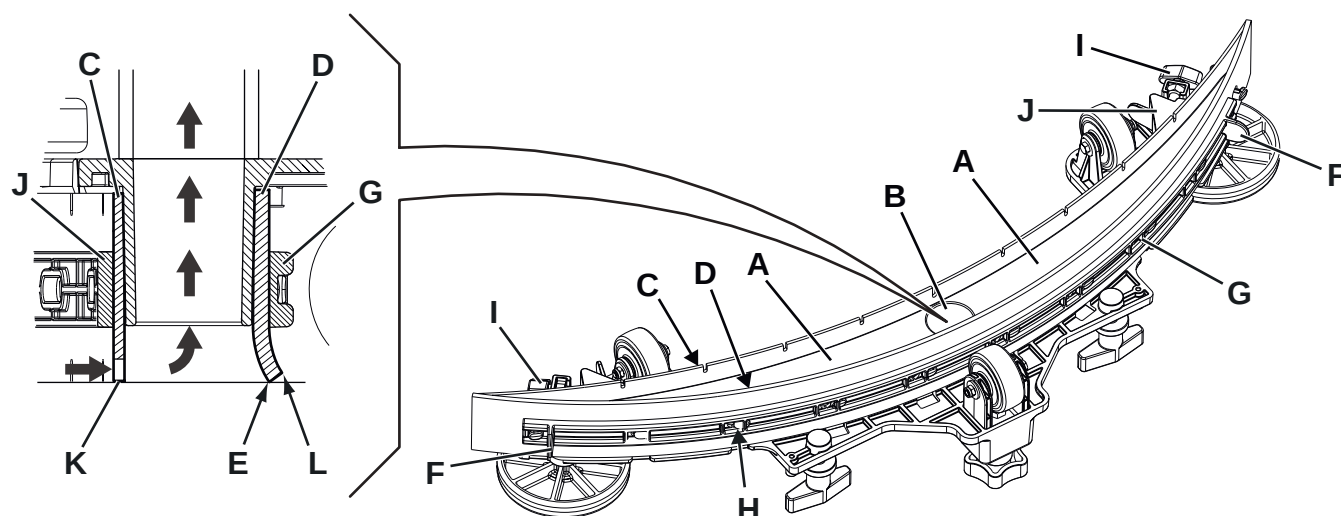

Figure 11
2. Ensure that the machine is off and the operator key (41) has been removed.
3. Loosen the handwheels (14) and remove the squeegee (29).
4. Wash and clean the squeegee. In particular, clean the compartments (A, Fig. 11) and the vacuum hole (B). Check the condition of the front (C) and rear (D) blades, ensuring there are no cuts and tears; if necessary, replace them as shown below.
2. Check the condition of the front (C, Fig. 11) and rear (D) blades, ensuring there are no cuts and tears; if necessary, replace them as shown below. Check that the front corner (E) of the rear blade is not worn; otherwise, turn the blade to replace the worn corner with one of the three remaining intact corners. If the other corners are worn too, replace the blade according to the following procedure:
- Using the tab (F), release and remove the elastic strap (G) from the fasteners (H), then turn or replace the rear blade (D).
- Unscrew the handwheels (I) and remove the strap (J), then turn or replace the front blade (C).
3. Install the squeegee (29) and screw down the handwheels (14).
- Check that the lip (K) of the front blade (C) and the lip (L) of the rear blade (D) are resting as shown in the figure.
- Use the knob (15) to make adjustments.